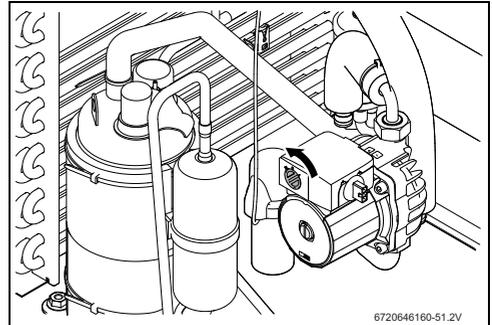

Fig. 15 Circulation pump
- ▶ Rotate circulation pump speed selector to position „III“ (Fig. 15)